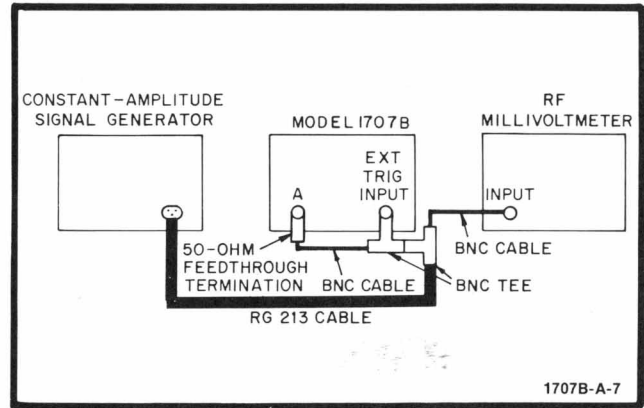

Figure 5-13. Delayed Triggering Test Setup
- a. Connect instruments as shown in figure 5-13.